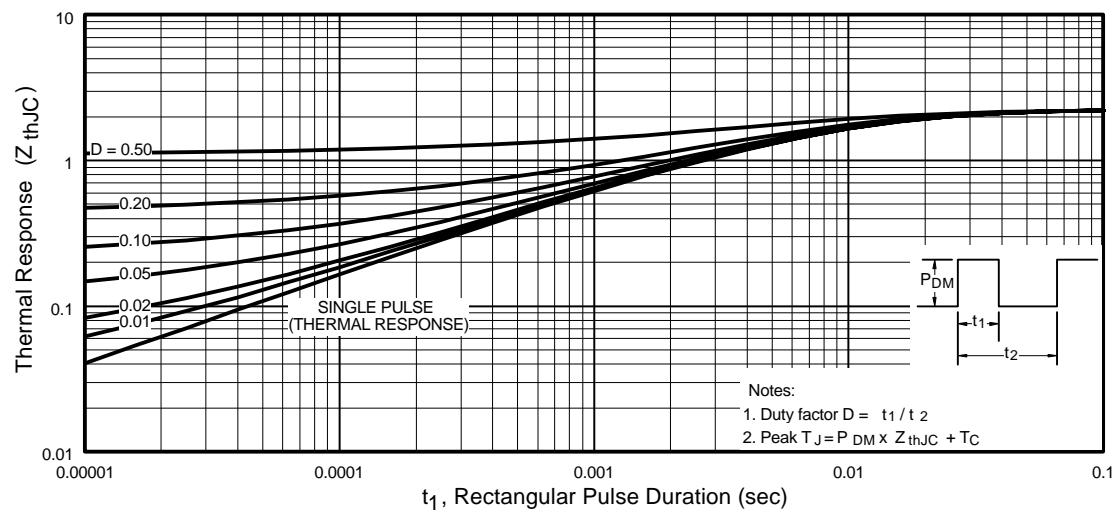

Fig 11. Maximum Effective Transient Thermal Impedance, Junction-to-Case
- ① Repetitive rating; pulse width limited by max. junction temperature. (See fig. 11)
- ② $V_{\text{DD}} = 25\text{V}$, starting $T_J = 25^\circ\text{C}$, $L = 410\mu\text{H}$